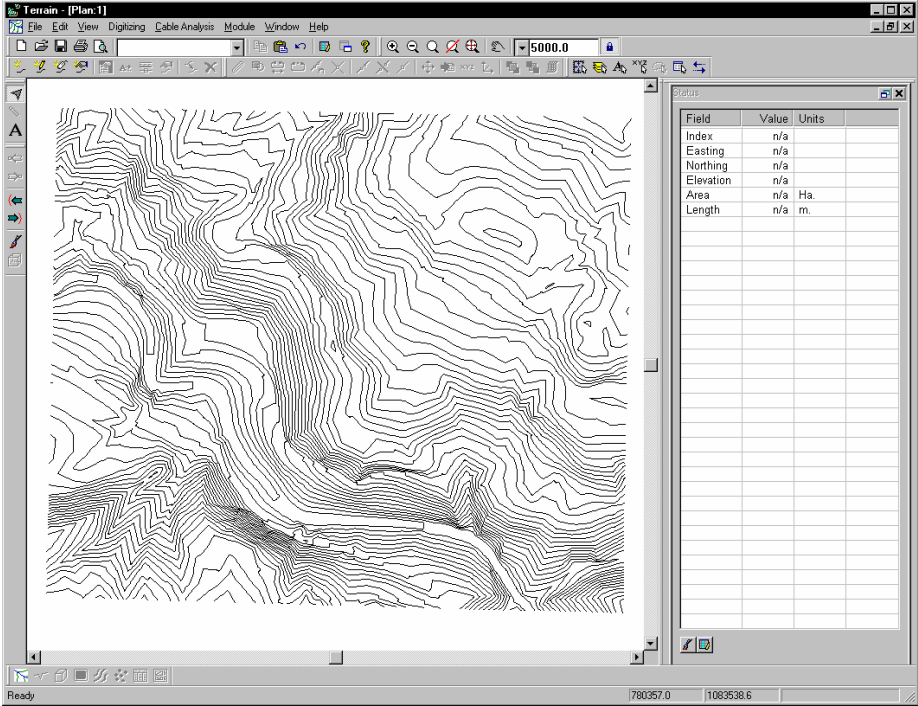

Figure 10.4: Remaining Features after Clipping
13. Press the *Zoom Extents*  button. The end result should be similar to Figure 10.4.